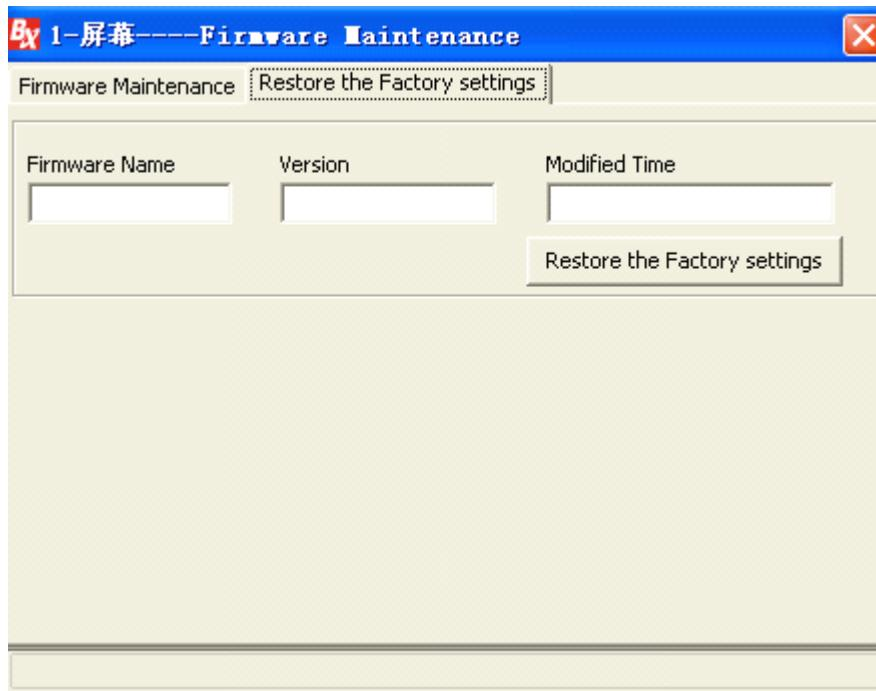

figure 5-29
- ◆ Restore the factory settings: switch to this page, the current firmware name, version, modify time will be shown. Click “restore the factory settings” to restore the firmware. As shown in figure 5-29.